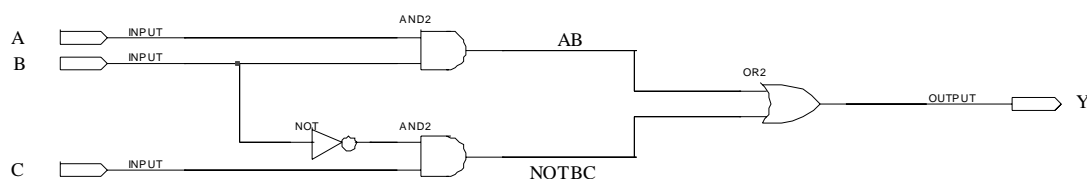

FIGURE 3. SIMPLE COMBINATIONAL CIRCUIT
- Using the Graphic Editor, enter the schematic shown in Figure 3. This circuit is a realization of the simple Boolean expression,  $Y = A*B + /B*C$ , where "\*" indicates the Boolean AND operator, "+" indicates the Boolean OR operator and "/" indicates the Boolean NOT operator. The components needed for the circuit are AND2, NOT, OR2, INPUT and OUTPUT.
- Label the pin names and internal nets as shown in Figure 3.